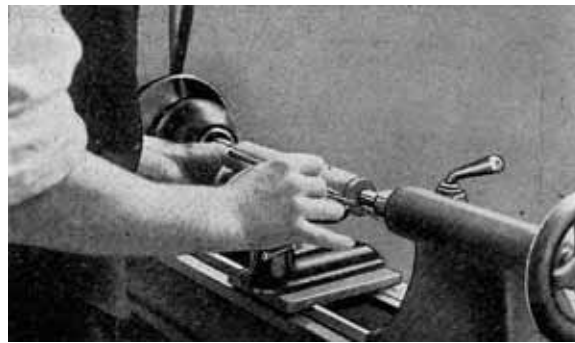

Fig. 7.
5. MEASURING FOR LENGTH (RULE AND PENCIL). FIG. 7. Hold the back edge of the rule in the left hand and place it on the tool rest so that the front edge is almost in contact with the revolving cylinder.